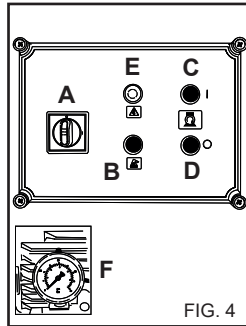

FIG. 4
- 4) Press the start button (C (Fig. 4).